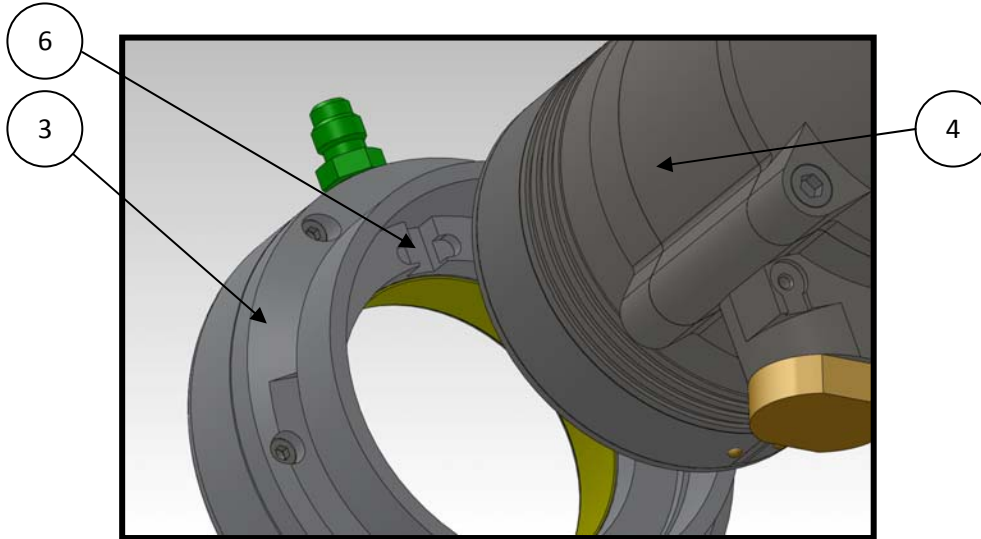

Figure 2 - Assembly of the Air Shield, Rear View
2. Assembly of The Air Shield (figure 2,3)
- a. Assemble the Air Shield (3) on the detector (4).